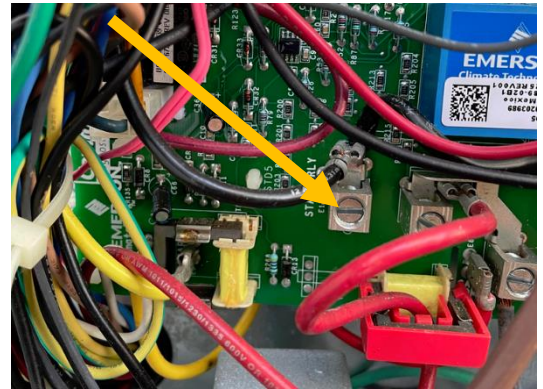

Figure 4
Step 5: Connect the black EasyStart wire under the screw pointed to by the yellow arrow in figure 4.